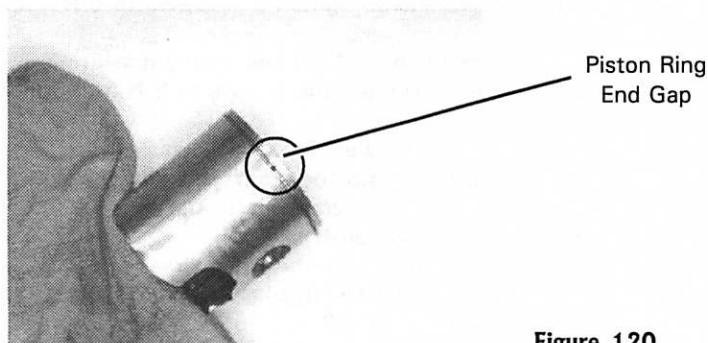

Figure 120
4. Align the piston ring end gap with the ring locating pin (Figure 120).